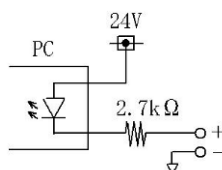

Figure 2
*2: The equivalent circuit is shown in the right figure. Connect a contact with a capacity greater than 10mA to between the terminals. (Figure 2)